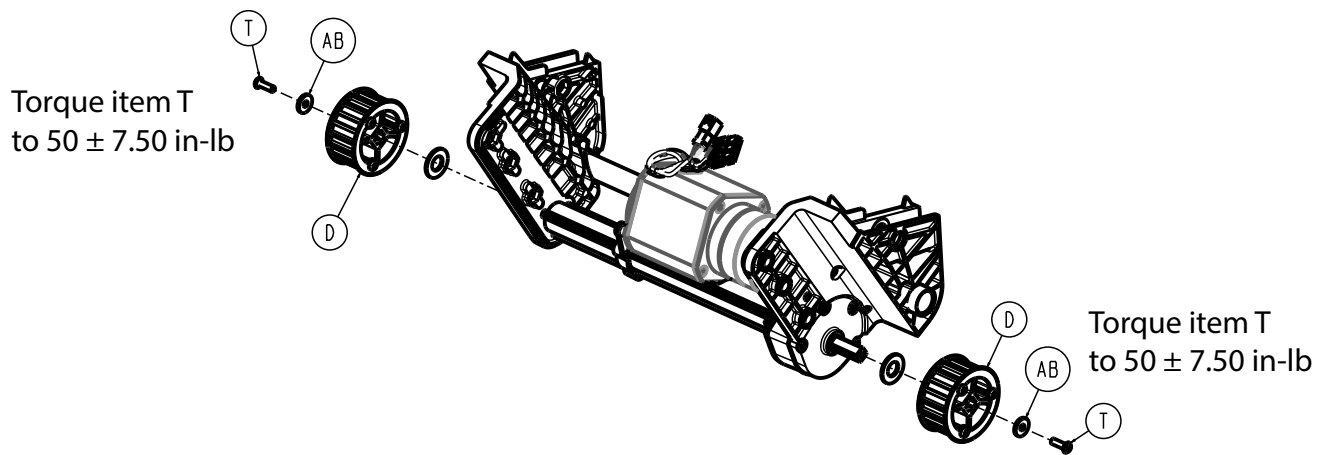

Figure 28 –
4. Using a T25 Torx driver, remove the button head cap screw (T) and washer (AB) that secure the timing pulley (D) to the drive shaft (Figure 28). Save the screw and washer.
**Note** - Using a torque wrench, torque the button head cap screw (T) to  $50 \pm 7.50$  in-lb when you reinstall.